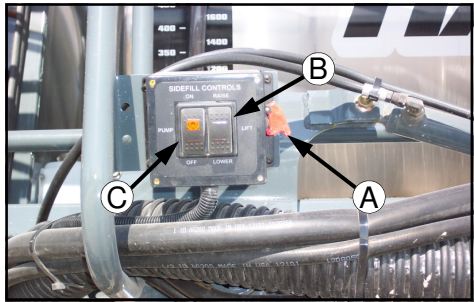

FIG 51-1
INDUCTOR OPERATION- With the engine running and the parking brake set, flip the lock switch up (fig.51-1, item A). Lower the inductor assembly with the inductor control box switch (fig. 51-1, item B). If filling with the suck-on attachment, leave the engine running. If filling with the push-on attachment, turn the engine off.
*To activate “suck-on” pump, flip the inductor control switch up (fig. 51-1, item C). This will start the pump. Flip switch down when filling is complete.